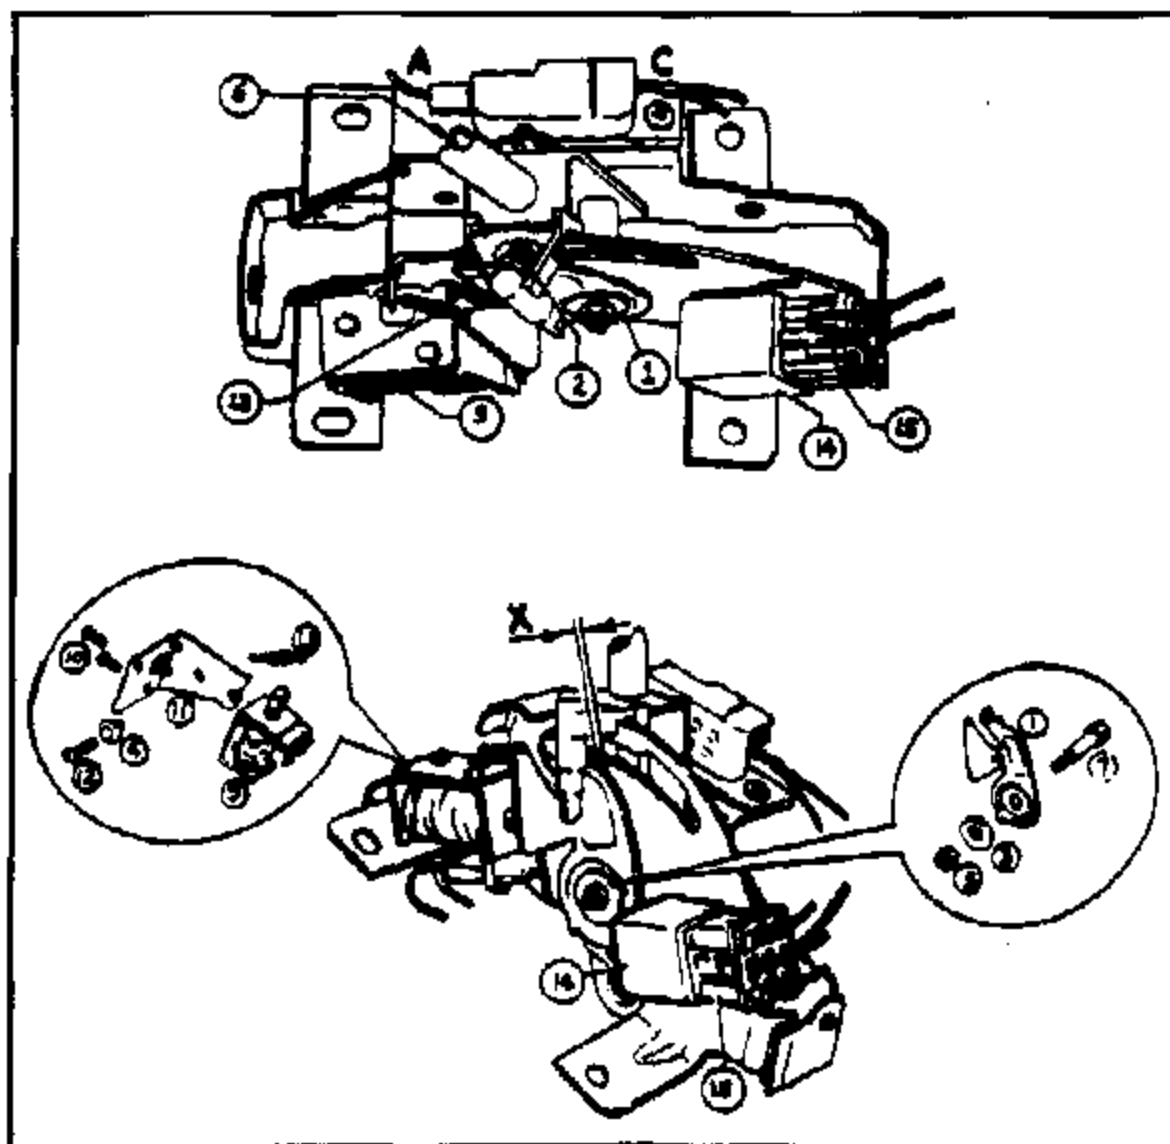

Fig. 2 Electrical components, installed
- Connect relay (14) to harness (15) and position to selector mechanism (Fig 2, pg 4).
- Connectors (16) and (17) to be covered with foam strip to safeguard against rattling noises.